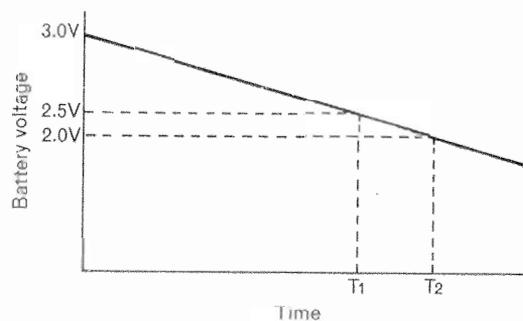

Fig. 4
IC504-② and peripheral circuits compose the blocking oscillation circuit; when the power switch is turned ON, assuming the +5V constant voltage power supply is used as reference voltage (V_1), it compares this voltage with the back-up battery voltage (V_2), and when V_2 drops to T_1 shown in Fig. 4 and V_2 is smaller than V_1 , this circuit starts oscillations. Battery alarm indicator LED501 starts flashing due to these oscillations. IC504-① and peripheral circuits detect the back-up battery voltage as well.
When the back-up voltage drops to T_2 (power voltage which can hold data) shown in Fig. 4, immediately after this circuit clears data in the memory (RAM) inside the microprocessor, the power switch is turned ON, making 4 tape select indicators flash to warn that no data is held and it inhibits mechanical operation. Pressing one of the 4 tape select buttons releases the mechanical operation inhibition mode. This operation stops the flashing of the 4 tape select indicators and the indicator corresponding to the pressed tape select button flashes. At the same time, the tape select memory indicator starts flashing to warn of the absence of data in the memories.